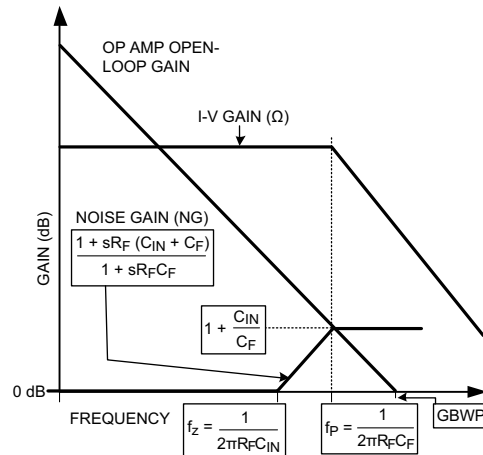

Figure 56. Transimpedance Amplifier Graphical Stability Analysis and Compensation
The diode capacitance ( $C_D$ ) combined with the input capacitance of the LMH6601 ( $C_A$ ) has a bearing on the stability of this circuit and how it is compensated. With large transimpedance gain values ( $R_F$ ), the total combined capacitance on the amplifier inverting input ( $C_{IN} = C_D + C_A$ ) will work against  $R_F$  to create a zero in the Noise Gain (NG) function (see Figure 56). If left untreated, at higher frequencies where NG equals the open-loop transfer function excess phase shift around the loop (approaching 180°) and therefore, the circuit could be unstable. This is illustrated in Figure 56.
Figure 56 shows that placing a capacitor,  $C_F$ , with the proper value, across  $R_F$  will create a pole in the NG function at  $f_p$ . For optimum performance, this capacitor is usually picked so that NG is equal to the open-loop gain of the op amp at  $f_p$ . This will cause a “flattening” of the NG slope beyond the point of intercept of the two plots (open-loop gain and NG) and will result in a Phase Margin (PM) of 45° assuming  $f_p$  and  $f_z$  are at least a decade apart. This is because at the point of intercept, the NG pole at  $f_p$  will have a 45° phase lead contribution which leaves 45° of PM. For reference, Figure 56 also shows the transimpedance gain (I-V ( $\Omega$ ))
The op amp noise voltage will be gained up in the region between the noise gain's “zero” and its “pole” ( $f_z$  and  $f_p$  in Figure 56). The higher the values of  $R_F$  and  $C_{IN}$ , the sooner the noise gain peaking starts and therefore its contribution to the total output noise would be larger. It is obvious to note that it is advantageous to minimize  $C_{IN}$  (for example, by proper choice of op amp, by applying a reverse bias across the diode at the expense of excess dark current and noise). However, most low noise op amps have a higher input capacitance compared to ordinary op amps. This is due to the low noise op amp's larger input stage.